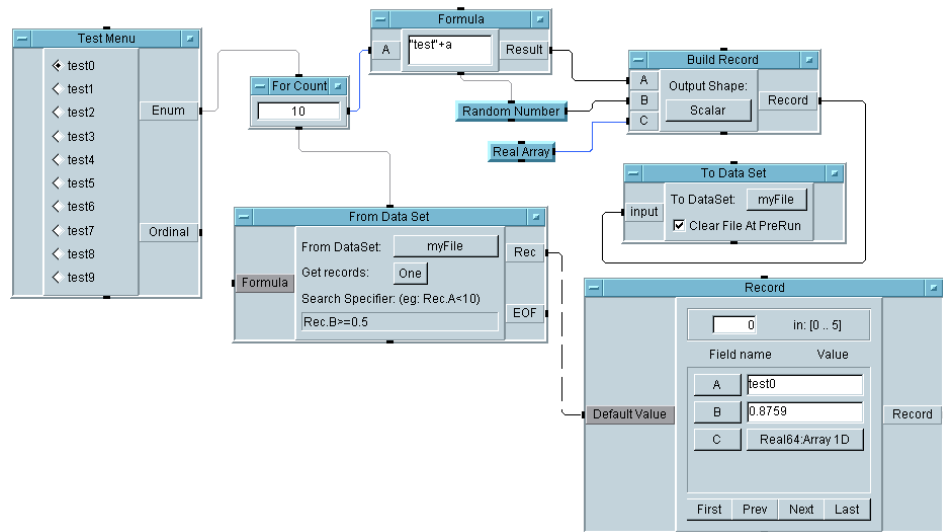

Figure 146 Adding the Test Menu object
- 5 The program should only execute when a menu selection is made, so connect the Test Menu data output pin Enum to the **For Count** sequence input pin. The program should look like Figure 146.